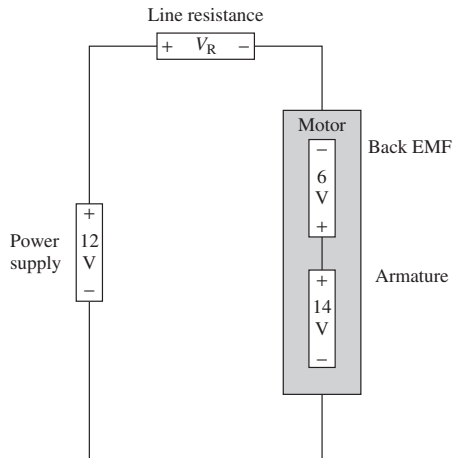

FIGURE P2.30 Cooling fan circuit for Problem 2.30.
2.30 (B)* (Application) An automobile cooling fan is connected to the car's 12 V battery. The fan motor can be modeled as two voltage sources in series, a negative back EMF voltage, and a positive armature voltage, as shown in Figure P2.30.